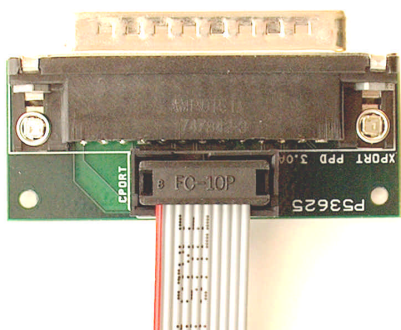

Figure 11: Plug Cport cable into Parallel Port Interface
15. With the GBA and XRC powered off, plug one end of the 10-pin ribbon cable into the Parallel Port Interface and the other end into the Xport's Cport. Refer to **Figures 11** and **12**.